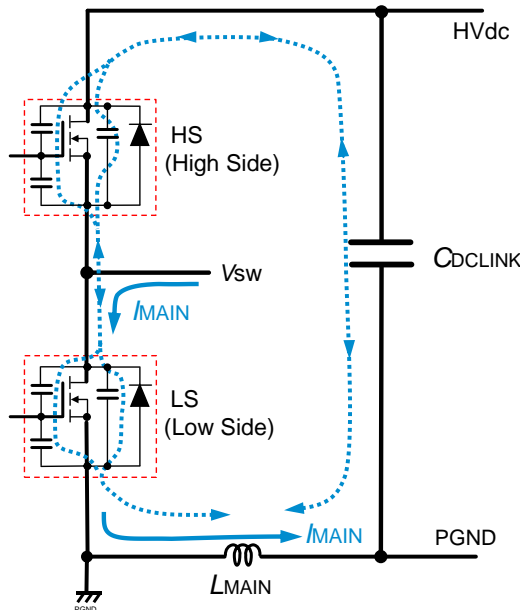

Figure 1 Current path when turn-off surge occurs
When a MOSFET turns on, current stores energy in the stray inductance of the wire on the PCB layout. The stored energy resonates with the parasitic capacitance of the MOSFET, and that produces surge current. Figure 1 illustrates the path of the 'ringing current' in a half bridge topology, which has high side switch (HS) and low side switch (LS). When LS turns on, current I_{MAIN} flows from V_{SW} through the stray inductance L_{MAIN} .